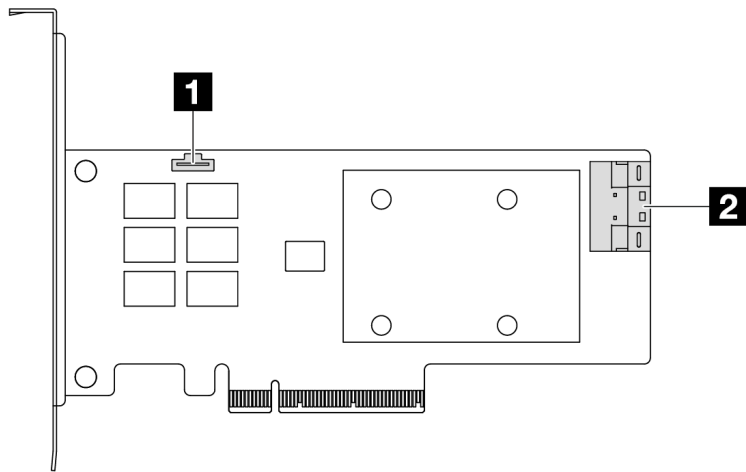

Figure 298. A Gen 4 8i SFF RAID/HBA adapter (one port connector)
- Figure 298 “A Gen 4 8i SFF RAID adapter (one port connector)” on page 290